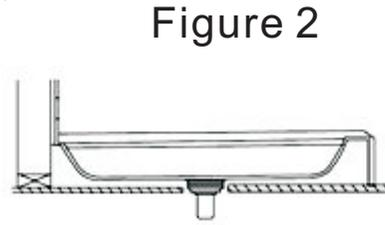

Figure 2
1. installation of shower tray: Firstly to make water level in the bathroom in advance, and the shower tray water level need to be consistent with it (Figure 2)